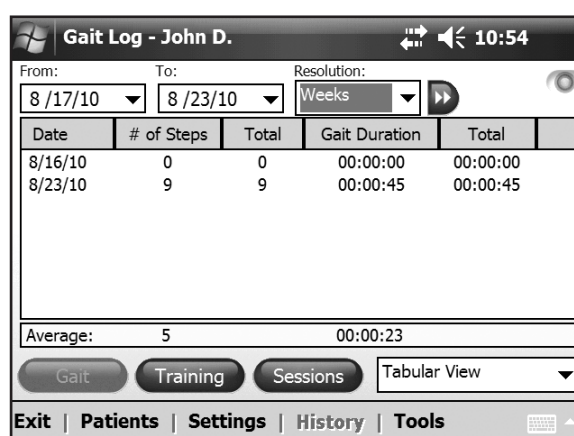

Figure 7-32: Gait Log, Tabular View.
2. Press **Gait**. The Gait Log will open in tabular view. See Figure 7-32.